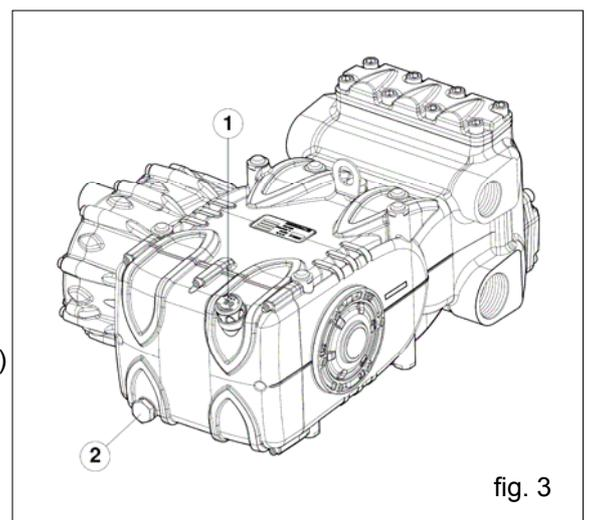

fig. 3
Check the oil level using the oil level dipstick pos. ① fig.3; refill if necessary.
Correct oil level inspection is done with the pump at room temperature; oil is changed with the pump at working temperature by removing the plug pos. ②, fig.3.